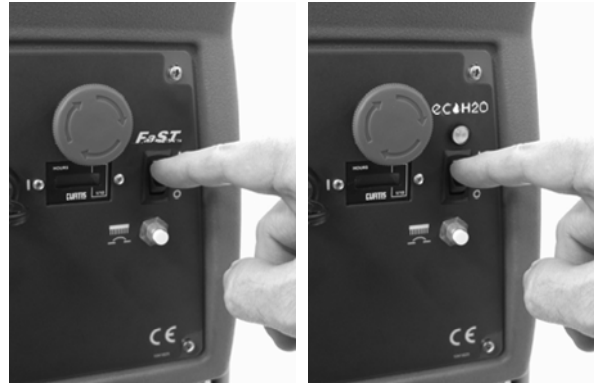

FIG. 16
2. **FaST Model:** To foam scrub, press the FaST system switch to the on (I) position (Figure 16).
ec-H2O model: Press the ec-H2O system switch to the on (I) position (Figure 16).